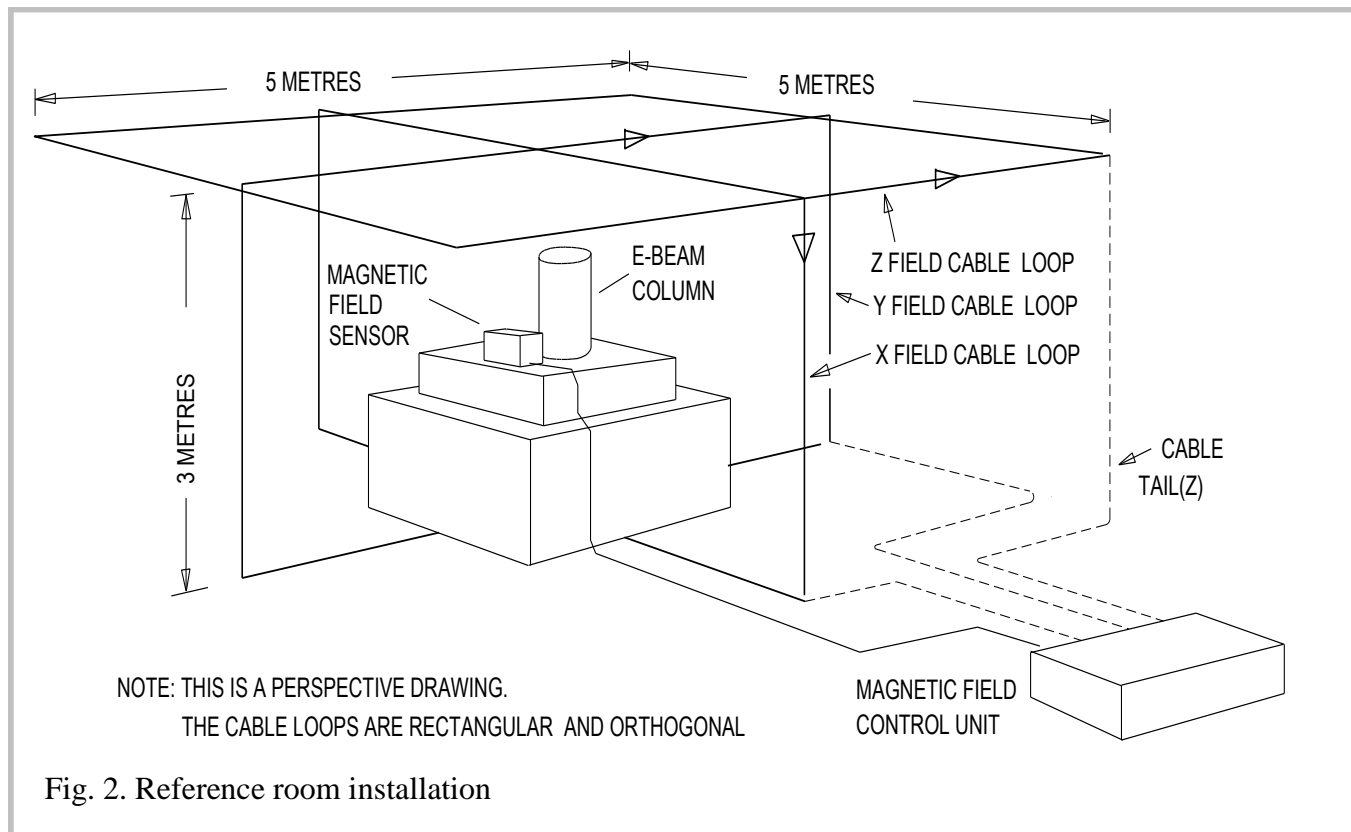

Fig. 2. Reference room installation
To specify the SC22 performance more rigorously, we use a reference room cable installation. This is shown in Fig. 2. The electron beam column is centred in the 3m x 5m X and Y loops (which cross over above and below the column) and the 5m x 5m Z loop. The SC22 specifications on page 6 apply to this reference room installation.
Dynamic range (X & Y) ^(note:1)	60 mG (6 μ T) pk-pk (installation Fig. 2)
Dynamic range (Z) ^(note:1)	45 mG (4.5 μ T) pk-pk (installation Fig. 2)